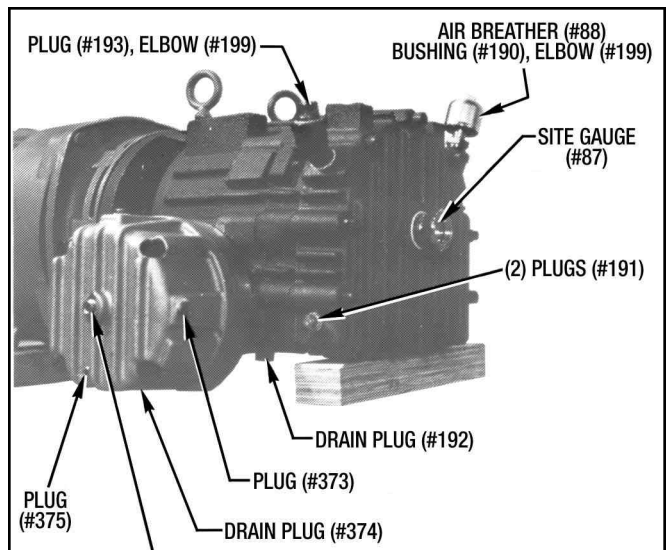

Figure 9.18 - Completing Reassembly Procedure
5. Bolt End Housing (#309) to Adapter (#900) using (4) Washers (#327) and (4) Screws (#352). Make sure that the teeth of the Friction Discs (#313) properly engages the spline of Hub (#302).
6. Reinstall all pipe plugs, air breather and fittings removed at disassembly. (See Figure 9.18)